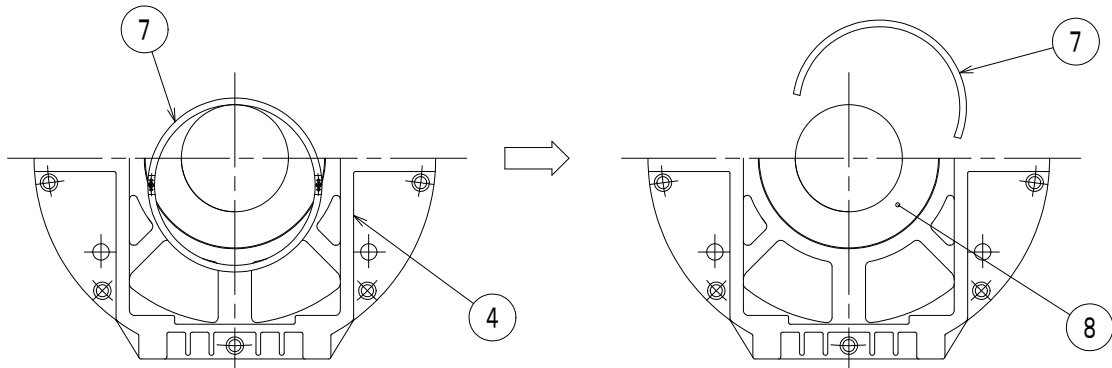

Fig. 13-4
- Screw eye-bolts into bearing shell upper half ⑥.
- (4) Disassembly of oil ring (see Fig. 13-4)
- Rotating the joint to the top, and then remove the joining screws from oil ring ⑦.
- Take out oil ring ⑦ from the journal.